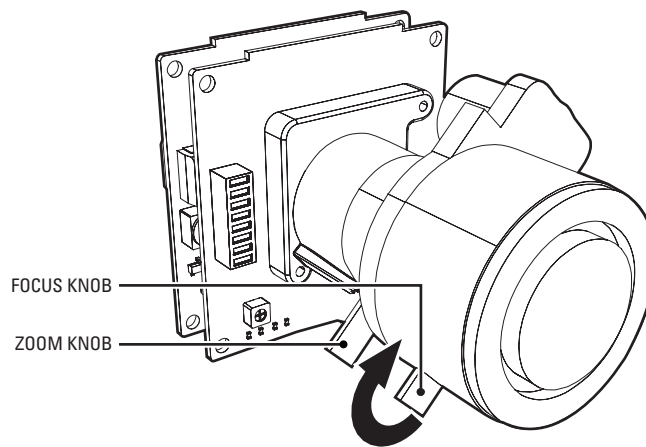

Figure 4. Adjusting the Camera
2. Attach the camera using three spacers and three screws (14 mm). Do not overtighten the screws or the spacers will collapse. The focus knobs need to be positioned as shown in Figure 4.
To adjust the camera zoom and focus, first loosen the zoom and focus knobs by turning them counterclockwise. Adjust the zoom and focus by sliding the knobs in the appropriate direction. Then lightly tighten the knobs by turning them clockwise to lock the adjustments (refer to Figure 4).